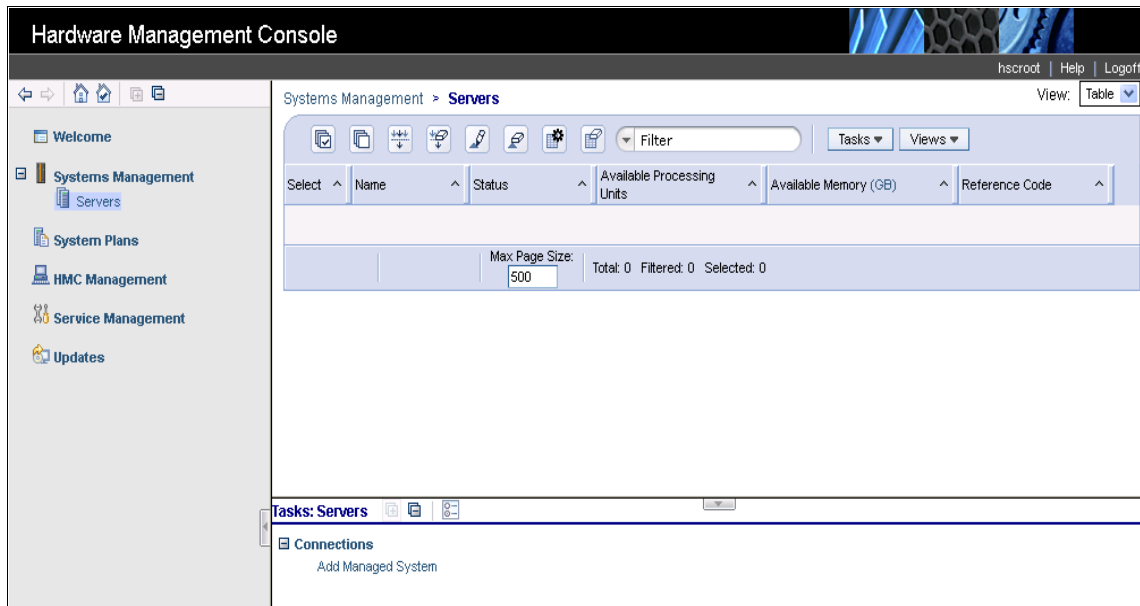

Figure 7-99 Adding a managed system
2. Click **Connections** → **Add Managed Systems** in the work pane, as shown in Figure 7-99.